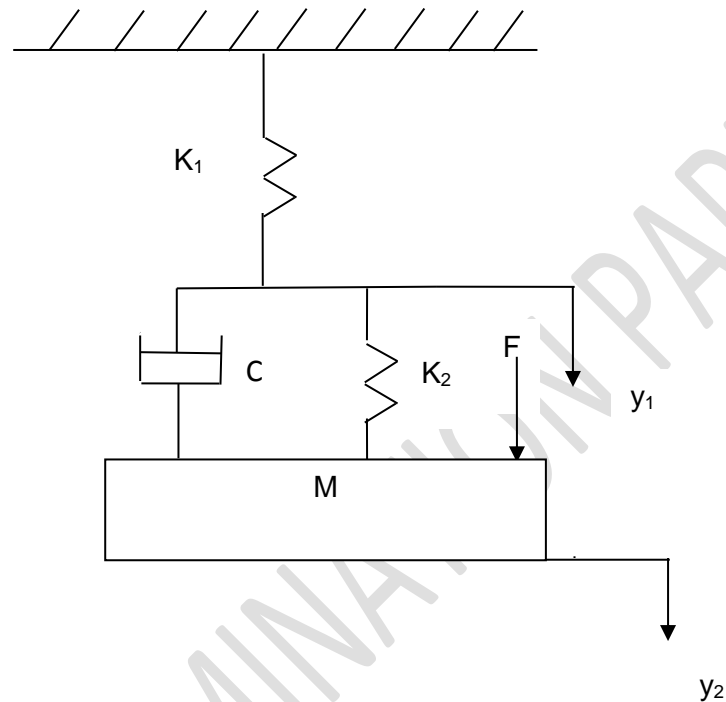

Figure Q4 A Simplified Mechanical System
- Q4 Figure Q4 shows a simplified mechanical system, where